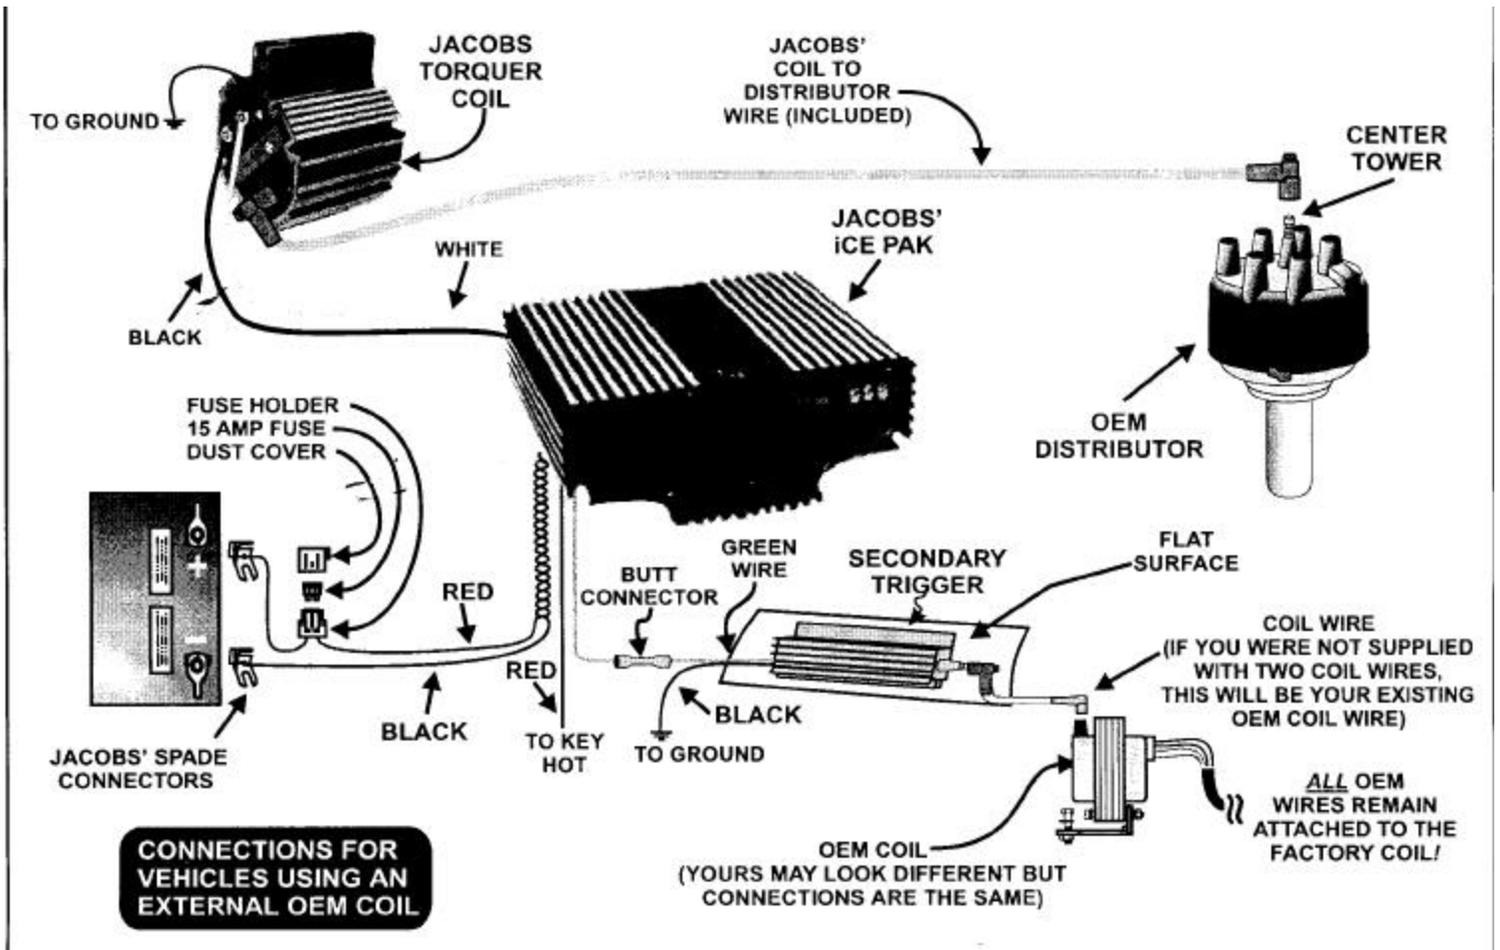

FIGURE 7: CONNECTIONS FOR SECONDARY TRIGGER SINGLE WIRE "EZ" APPLICATIONS
This section will take you step by step through the electrical connection of your iCE PAK and Torque., Coil. It is divided into two parts. The first part is common to ALL iCE PAKs and involves battery and coil connections. The second part is specific to each application type. ONLY ONE of the connections shown in **FIGURES 7 through 9** will apply to your vehicle.
B. CONNECTIONS FOR SECONDARY TRIGGER, "EZ" APPLICATIONS (REFER TO FIG. 7, ABOVE)
1. Install the new coil wire supplied as part of your kit between the SECONDARY TRIGGER and the OEM COIL (save your original coil wire in case you wish to convert back to a stock system) as shown in FIGURE 7, above.